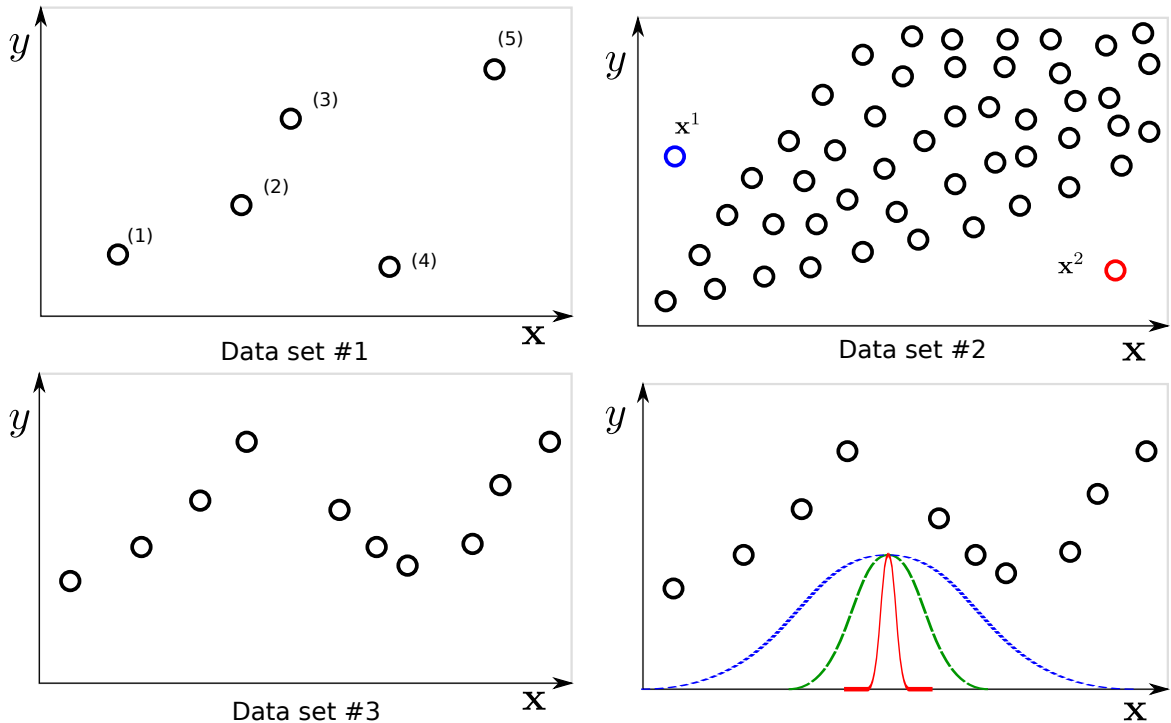

Figure 1: Three datasets, the black circles depict the data points. $\mathbf{x}$ is the input and y is the output and we wish to estimate $y = f(\mathbf{x})$.
A) In Figure 1, three different datasets are given
4. Draw the solutions of LWR for dataset 3 with each of the given kernels (see Figure 1, *Bottom right*).